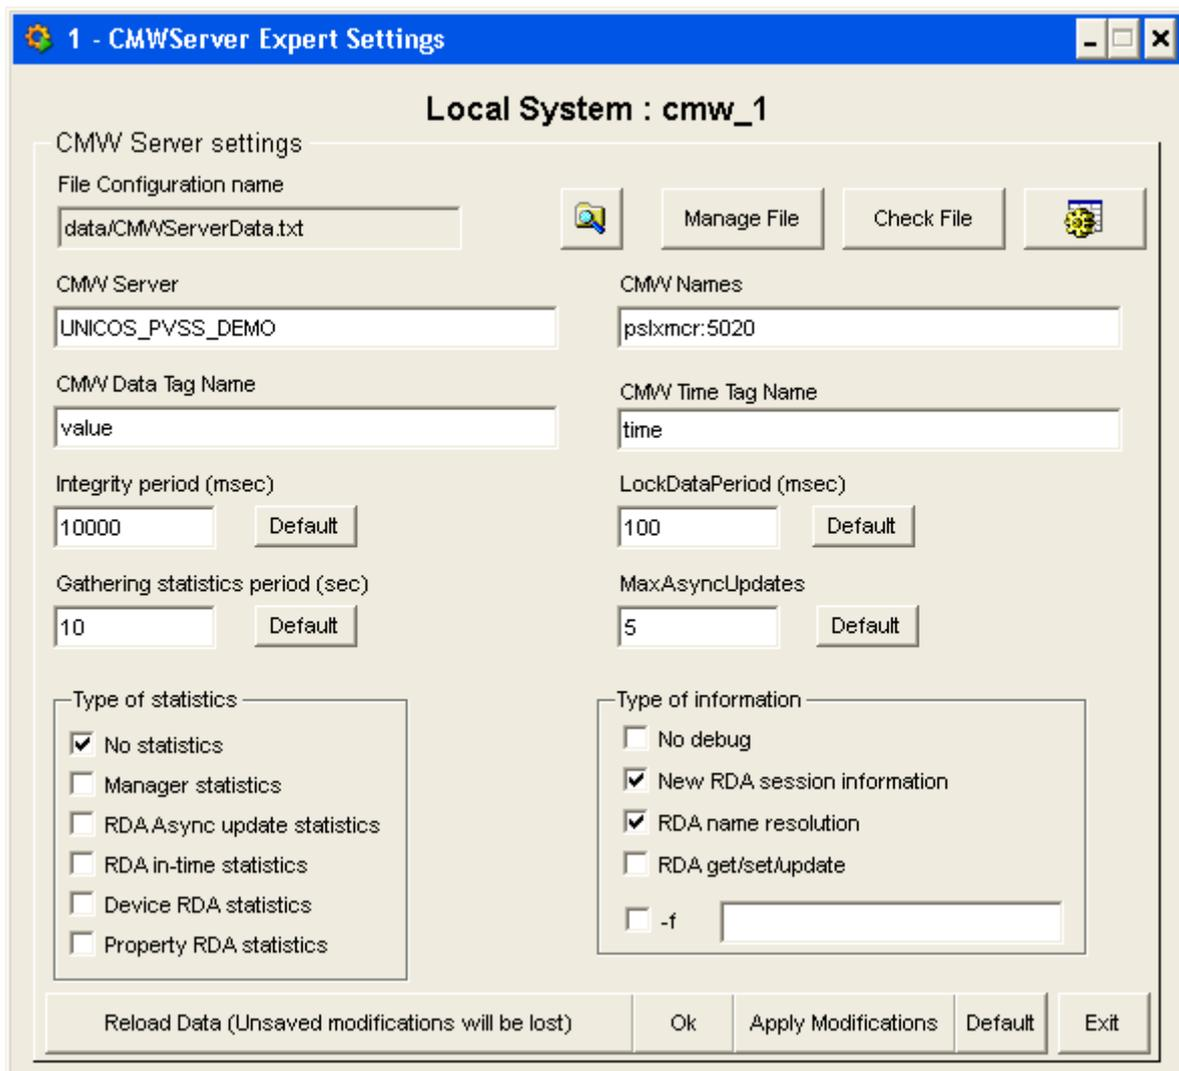

Figure 13: CMW Server expert configuration.
- open the expert setting of the CMW Server (Figure 13), set the CMW Server to 'UNICOS_PVSS_DEMO' (this name must be the same as the one in the config file for the CMW Client driver 3), the Integrity period to '30' (the value is in sec not in msec.), the CMW Data Tag Name and CMW Time Tag Name will be the ones used for the configuration of the CMW address config (see below), if another CORBA name server (dns) is used, replace 'pslxmcr:5020' by the CORBA name server and port number